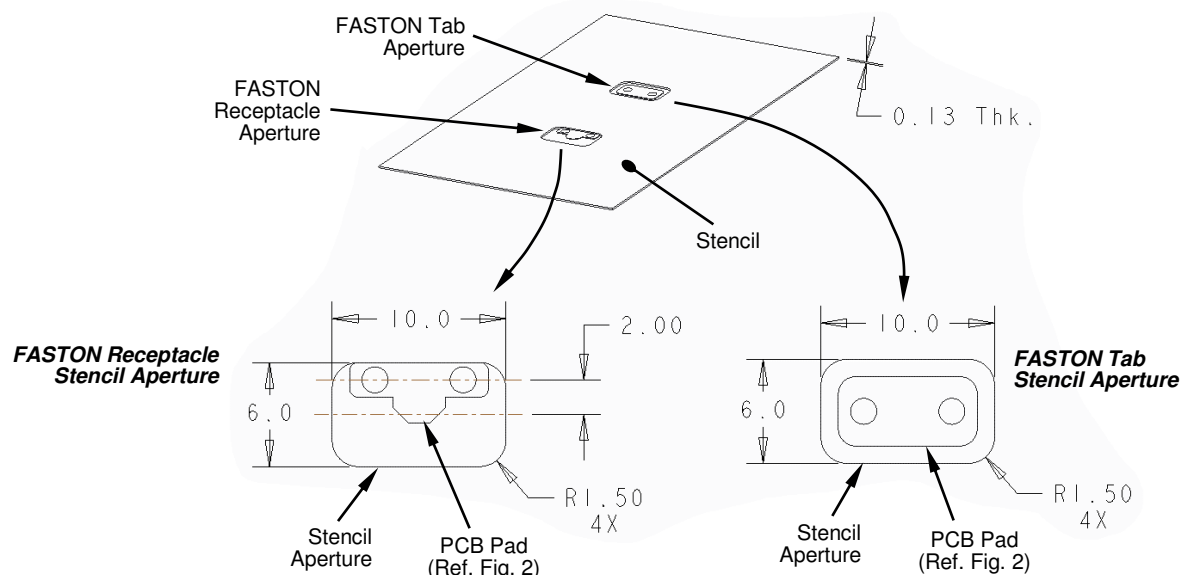

Figure 7
1. Prepare the pc board by applying solder paste to contact locations using stencil (ref. para. 3.7G, Figure 7).
Solder paste stencil thickness is 0.13mm. The shape and location of solder paste stencil apertures are shown in Figure 7.